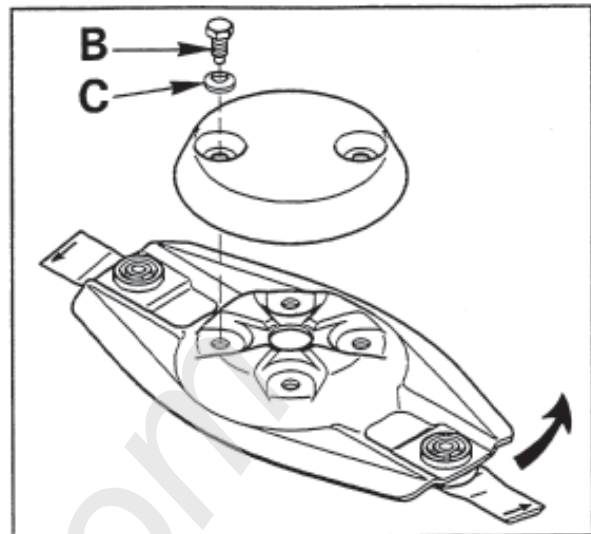

Abb. 1
Lubricate the PTO shaft at the hourly intervals indicated in figure 1 with SHELL Multi-Purpose grease NLGI grade 2
conical spring washers (C) on a hub (fig. 1).
Take extra care when fitting the conical spring washers (C) (fig. 1), which must be positioned with the conical centre at the top.